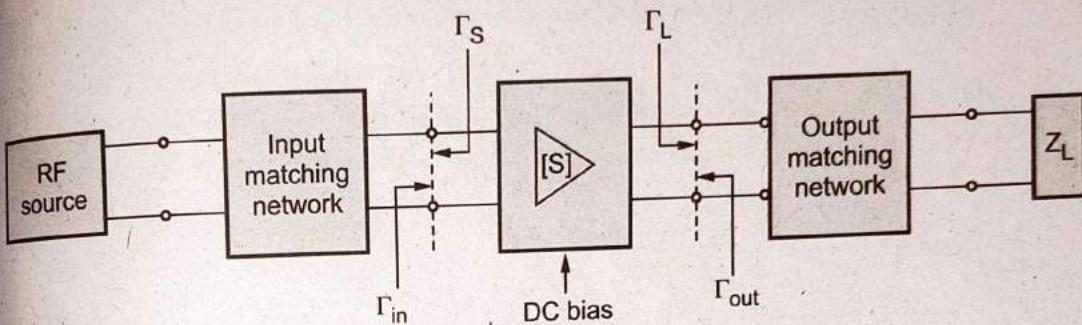

Fig. 5.6.1 General amplifier system
- A general single-stage amplifier with two matching networks at input and output is shown in Fig. 5.6.1